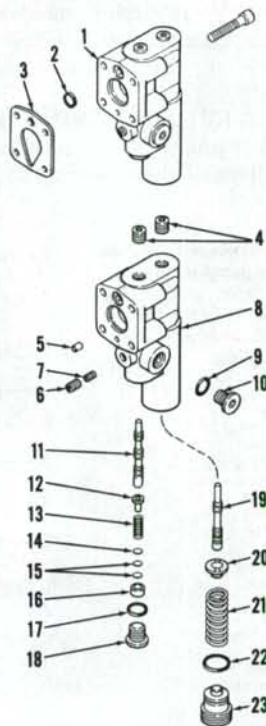

Fig. 248—Exploded view of pump compensator section of dual hydraulic pump used on Model 2090, 2290, 2390 and 2590 tractors.
piston pump. Unbolt and remove pump compensator, "O" ring and gasket (1, 2 and 3—Fig. 248 or 249) from piston pump. Refer to Fig. 247 and remove "O" ring (44) from control piston guide. Unbolt and remove valve block (42) from pump housing (9). Remove gasket (32). Remove rear bearing (29) and spacer (28). Remove cylinder block assembly (items 19 through 27) from pump housing being careful not to allow pistons (19) to fall out. Unbolt and remove both side bearing covers (3) and shims (4), keeping shims with respective covers of each side, "O" rings (5), spacers (6), bearing cups and cones (7 and 8), then remove cam plate (18) from pump housing. Remove pump shaft (15) with bearing (14), pressing off bearing cone and renew cup (13) and cone together if necessary. Remove spring (11) and pivot (12).
243. OVERHAUL PUMP COMPENSATOR (MODELS 2090, 2290, 2390 AND 2590). To disassemble pump compensator, remove seal wire from end of compensator. Refer to Fig. 248. Index high pressure adjustment plug with compensator body so number of turns needed to remove plug can be recorded for reassembly aid. Remove adjustment plug (23), spring (21), seat (20) and spool (19). Remove plug (18), shim cup (16), shim(s) noting size and quantity, disc (14), spring (13), seat (12) and stand-by pressure spool (11). Remove cover plug (10), orifice plug (6) and orifice (7). Remove plugs (4) if necessary.